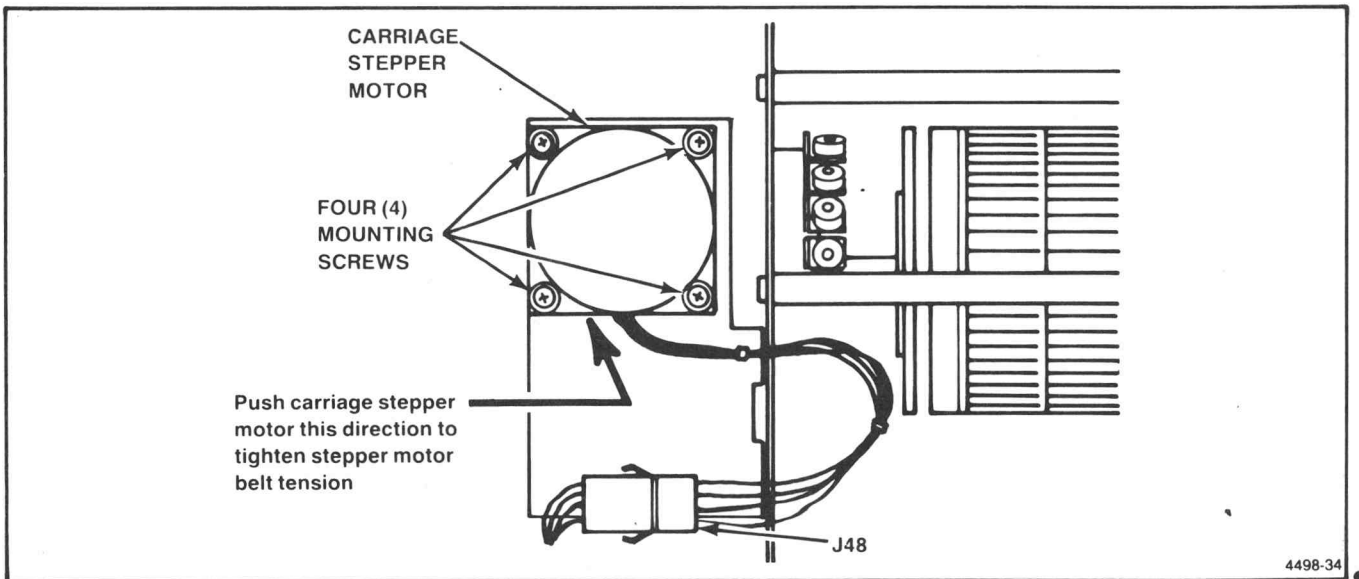

Figure 5-16. Carriage Drive Motor Belt Tension Adjustment.
1. Loosen (but do not remove) the four carriage drive motor mounting screws (see Figure 5-16).
1. Disconnect J48 of the carriage stepper motor (this connector is located on the four electrical wires leading to the carriage stepper motor (see Figure 5-16)).